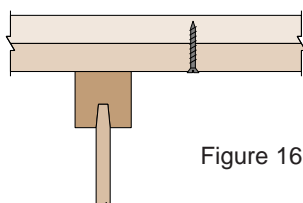

Figure 16
- **For an isolated squeak** where access from below is possible, drill a pilot hole (larger than the screw shank) through the subfloor and starting into the underlayment. Install a screw that is long enough to reach at least half way through the underlayment (Figure 16).